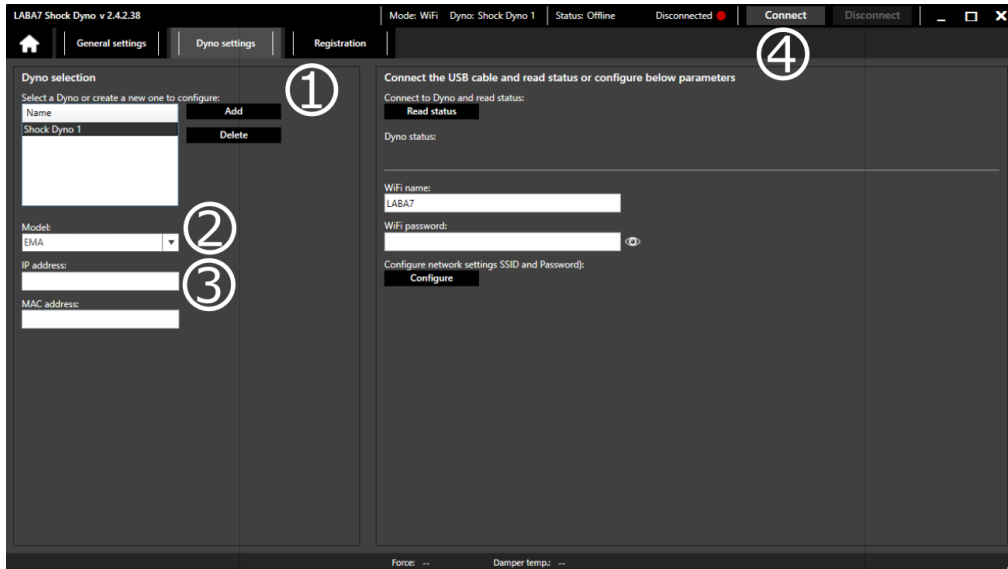

Figure 15
4. Add a new Dyno model by clicking Add button (Figure 15 – Step 1).
7. Select Model: EMA (Figure 15 – Step 2).
8. Enter the IP address of the device. The IP address is shown on the screen of the power supply (Figure 15 – Step 3).
9. Press **Connect** (Figure 15 – Step 4). **Connected** status indicates, that the connection is successful.